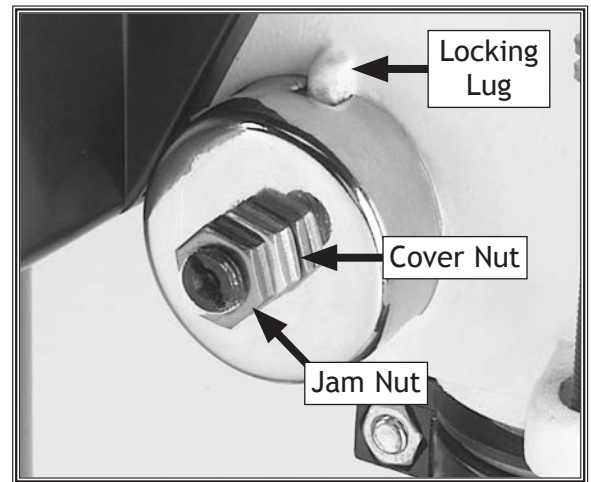

Figure 59. Return spring adjustment components.
6. Put on thick leather gloves and hold the spring cover against the side of the headstock, so the cover stays splined with the locking lug, and remove the jam nut to loosen the cover nut approximately $\frac{1}{4}$ " (6.4mm) (see **Figure 59**).